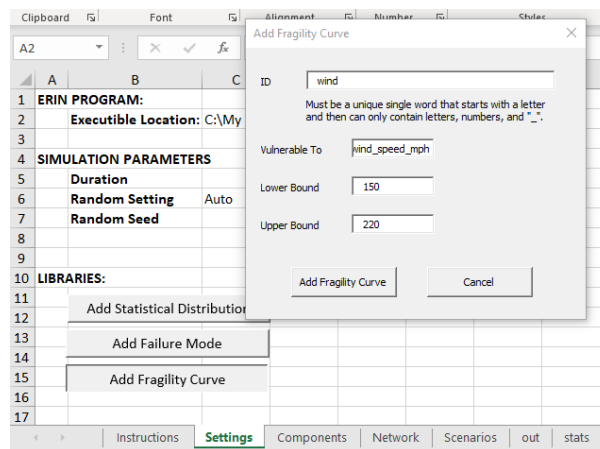

Figure 13: Add Fragility Curve #1
2. We will start by adding two fragility curves. See Figure 13, 14.